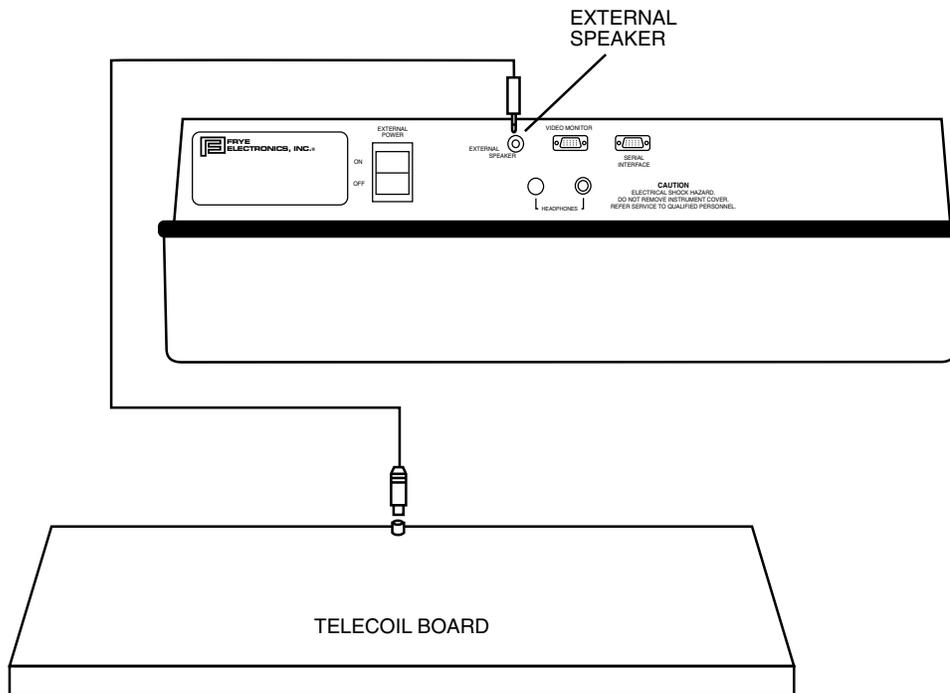

Figure 7.1A Telecoil setup
2. Place the telecoil board close to the FP40 as shown in Figure 7.1A.